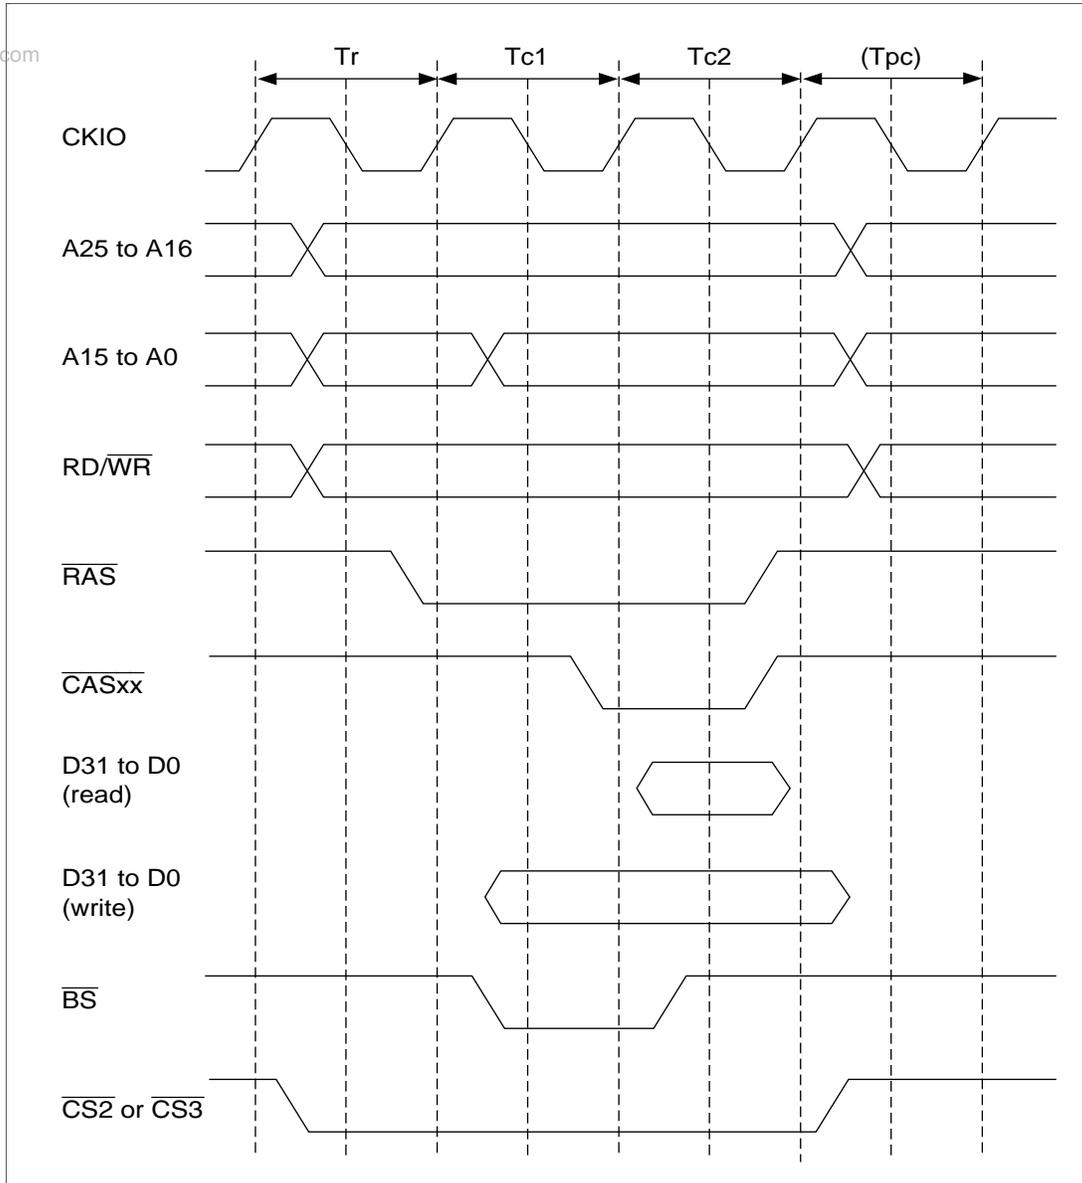

Figure 10.14 Basic Timing for DRAM Access
**Basic Timing:** Figure 10.14 shows the basic timing for DRAM access is 3 cycles.  $T_{pc}$  is the precharge cycle,  $T_r$  the  $\overline{RAS}$  assert cycle,  $T_{c1}$  the  $\overline{CAS}$  assert cycle, and  $T_{c2}$  the read data latch cycle.